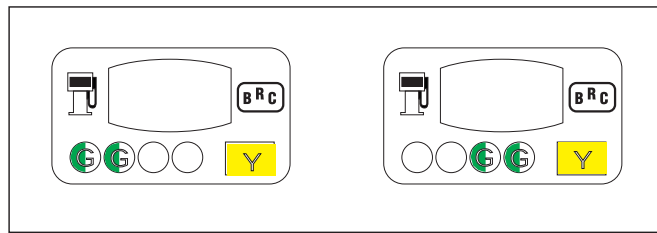

Fig. 28 Acquisition and self-configuration of the lambda oxygen sensor signal
- If the r.p.m. is kept on a correct value, the TWO-COLOURED LED turns on fixed yellow and the acquisition phase of the lambda oxygen sensor starts (fig. 28).